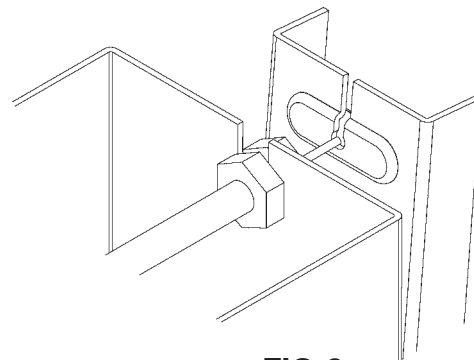

FIG. 8
1. Assemble the operating cable to the fountain bracket. (Fountain should be mounted to exterior wall) Create a loop in the cable and thread the free end of the cable through the wall into the freeze resistant box. The adjustment nuts should be in the middle of threaded area on the operating cable. See Figure 8